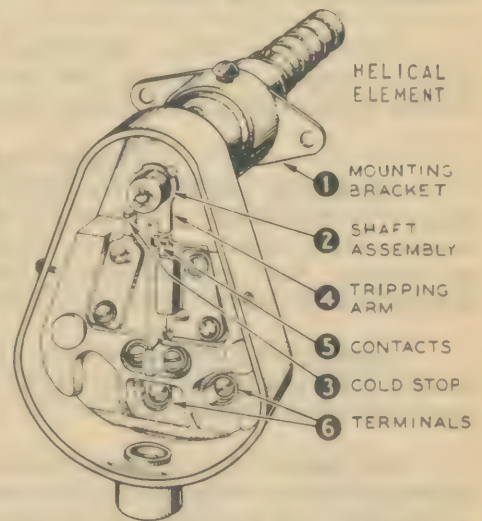

Fig. 1—Internal view of C40A Pyrostat
2. Remove the mounting bracket (1-Fig. 1) and place it over the hole in the smoke-pipe, and, using it as a templet, mark the location of screw holes in the mounting bracket on the pipe.
The C40A Pyrostat has no adjustments to make. It is necessary, however, that the contacts be open (separated) before the Protectorelay can operate to start the burner. If they are closed, they may be opened by moving the tripping arm (4-Fig. 1) over against the cold stop (3) with your finger.